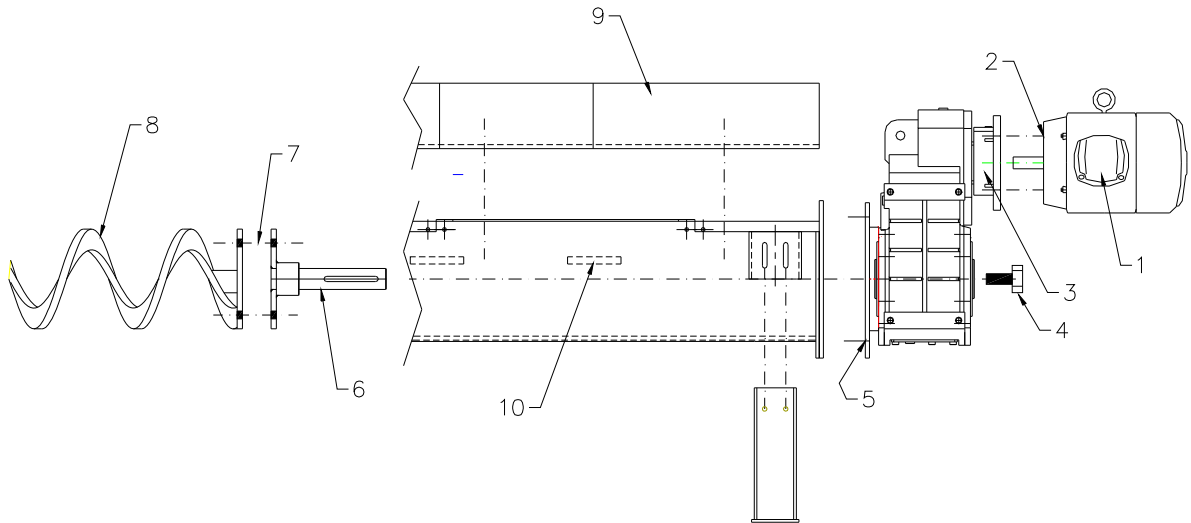

Figure 1
- Fig. 1. Remove the spiral hold down angles (2)